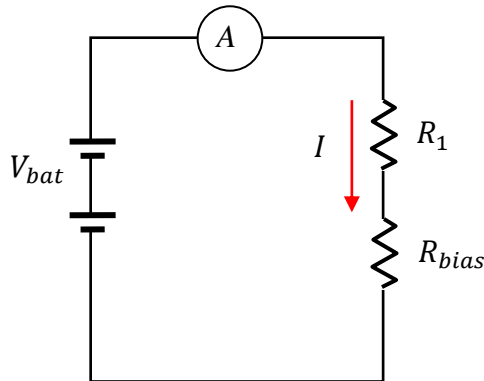

Figure 6. Circuit for Section B.
- On your circuit board, construct the circuit shown in Fig. 6 consisting of two batteries, R_1 and any one of the other resistors. (This will be R_{bias} .) Put one of your multimeters in the *ammeter mode* and connect it in *series* with R_1 and R_{bias} , as shown in Fig. 6.